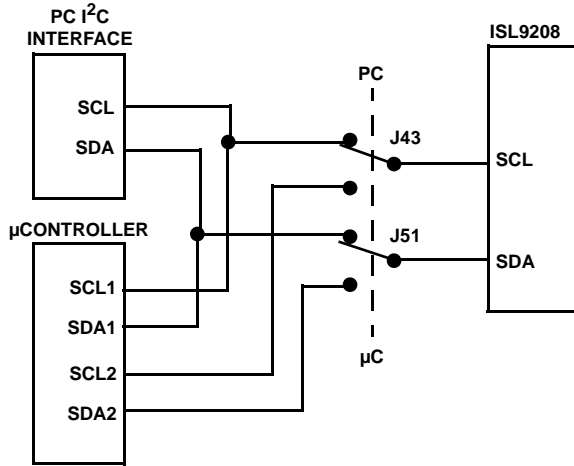

FIGURE 6. I²C JUMPERS: PC OR μC CONNECTION TO THE ISL9208
- For this test, make sure the SCL and SDA jumpers are set to the PC position. In this case, the PC has full control of the board and the microcontroller function is disabled. (See Figure 6). Except for the ISL9208 automatic response to overcurrent and over-temperature, all other actions of the board are manual and controlled through the GUI.